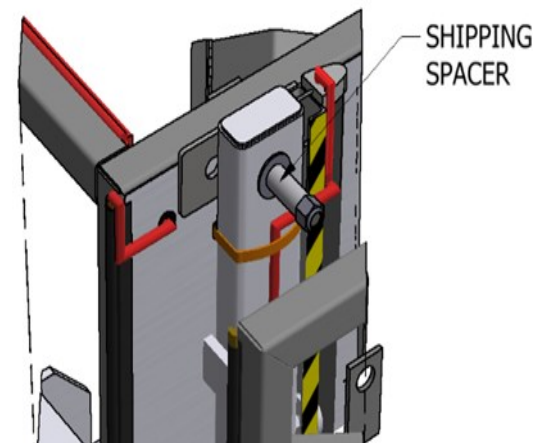

Figure 1
1. Remove the 3/4" nut and bolt holding the ARM OPEN EDGE to the Operator Arm (Figure 1)